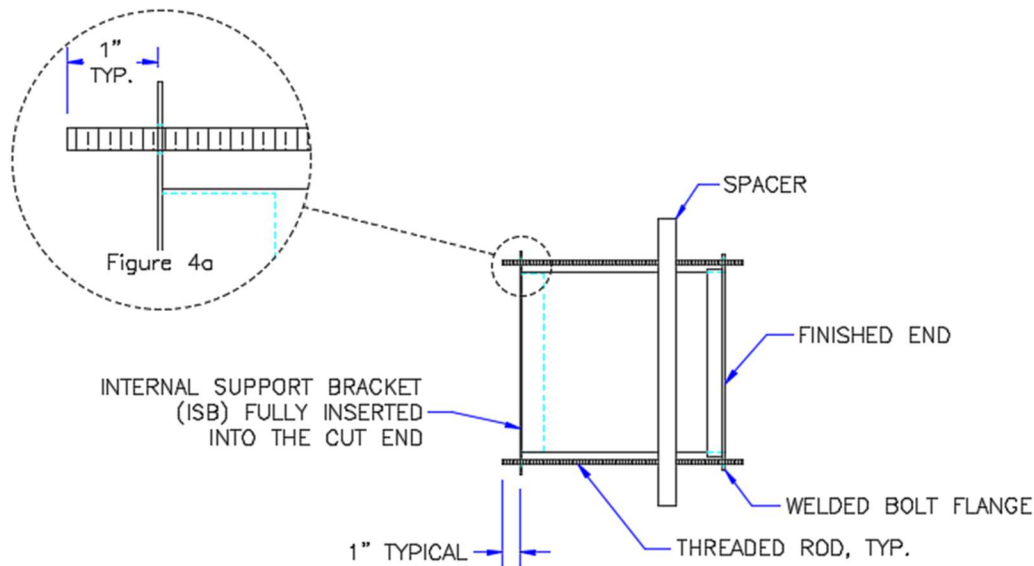

Figure 4: Threaded Rod should protrude 1" past each end.
5. Test fit the 1/4" diameter threaded rod and cut it so that 1" protrudes past each end. (See figure 4)